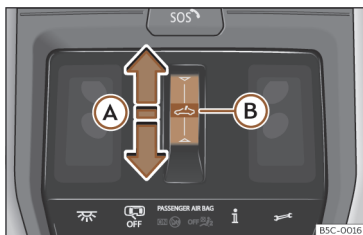

Fig. 93 On the interior roof lining: sunroof button.
- Automatic movement: slide your finger back over the functional area >>> **Fig. 93 (A)**.
forward over the functional area ↵ >>> Fig. 93 (A) and keep pressed until the sunroof is fully closed.